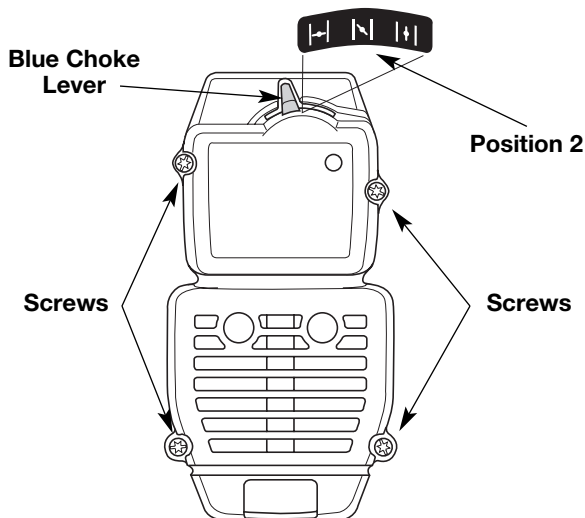

Fig. 21
2. Remove the four (4) screws securing the air filter/muffler cover (Fig. 21). Use a T-20 Torx bit screwdriver.
2. Insert the four (4) screws into the holes in the air filter/muffler cover (Fig. 21) and tighten. **Do not over tighten.**